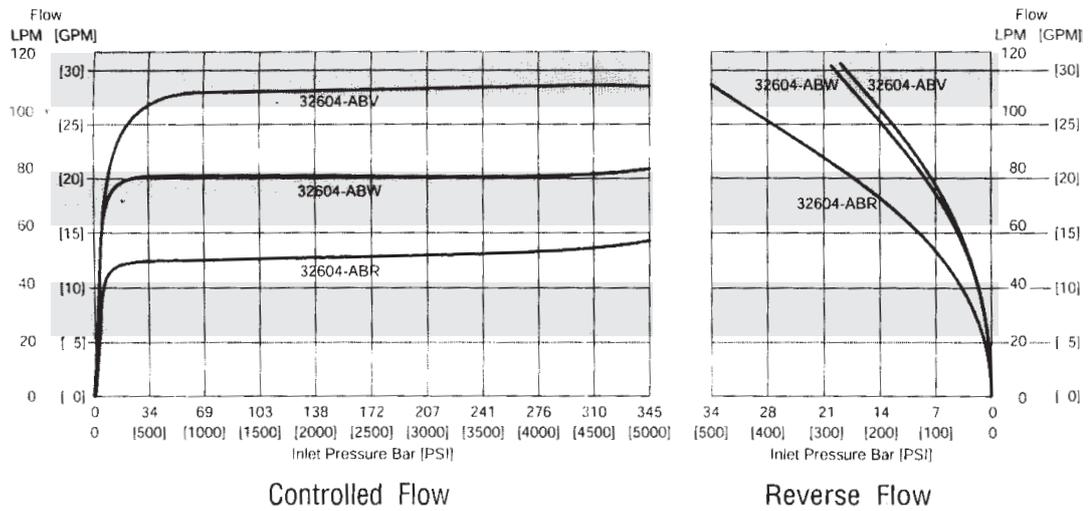

Figure No 1: Performance curves of Inline flow control valves
**Q11) a)** What is the importance of performance characteristics of a flow control valve? Interpret the performance curves of 3 different Inline flow control valves given in figure no.1. [9]